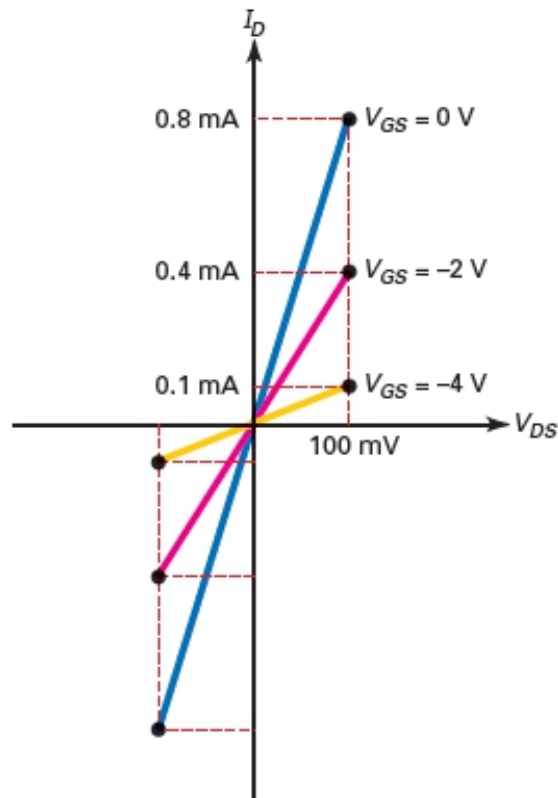

Figure-22 Small-signal r_{ds} is voltage controlled
- Figure-22 shows the drain curves of a 2N5951 near the origin with V_{DS} less than 100 mV. In this region, the small-signal resistance r_{ds} is defined as the drain voltage divided by the drain current:
- Recall that a JFET is a symmetrical device at low frequencies since either end can act like the source or the drain. This is why the drain curves of Figure-22 extend on both sides of the origin.